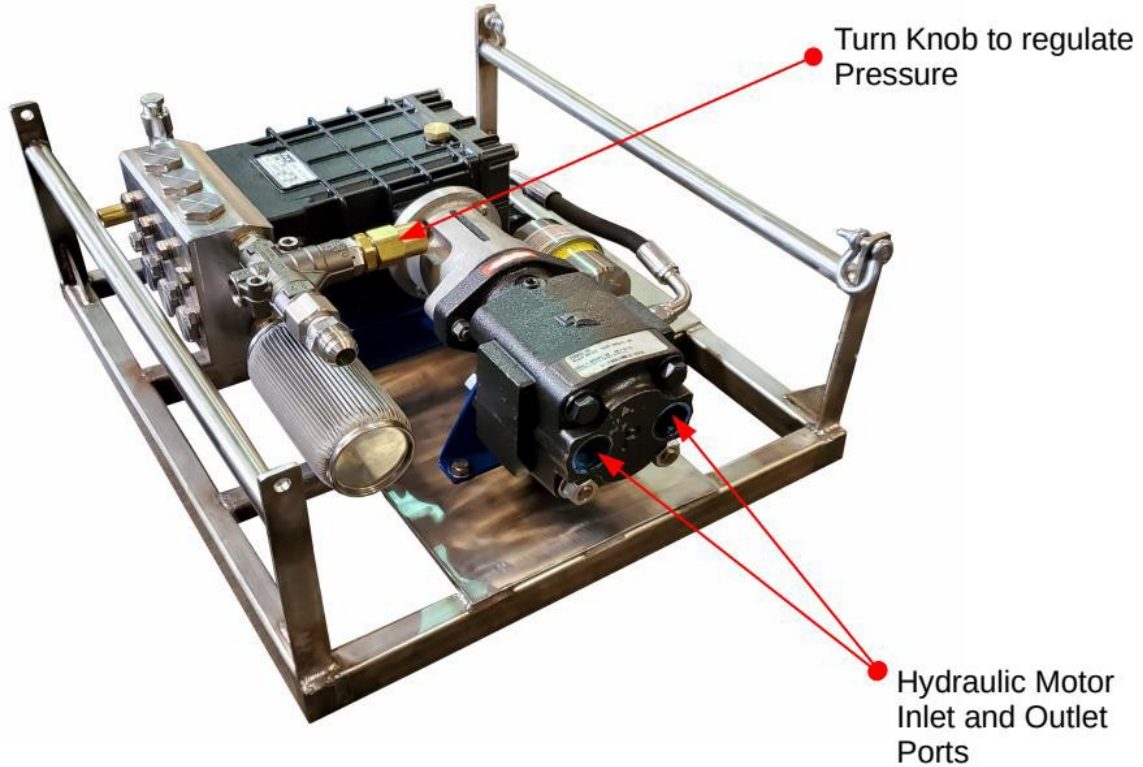

Figure 5.1 – Hydraulic Connections
3. Attach the calibration gauge between the main hose line and the lance and tighten the JIC connections (See **Figure 5.1**).
7. Hold the lance tight and observe the calibration gauge (See **Figure 5.1**).
8. Turn the knob on top of the pressure regulating valve (See **Figure 5.1**) until pressure reads 3,000-PSI (207 BAR) on the calibration gauge. Turning the knob clockwise will increase the pressure and turning it counterclockwise will decrease the pressure.